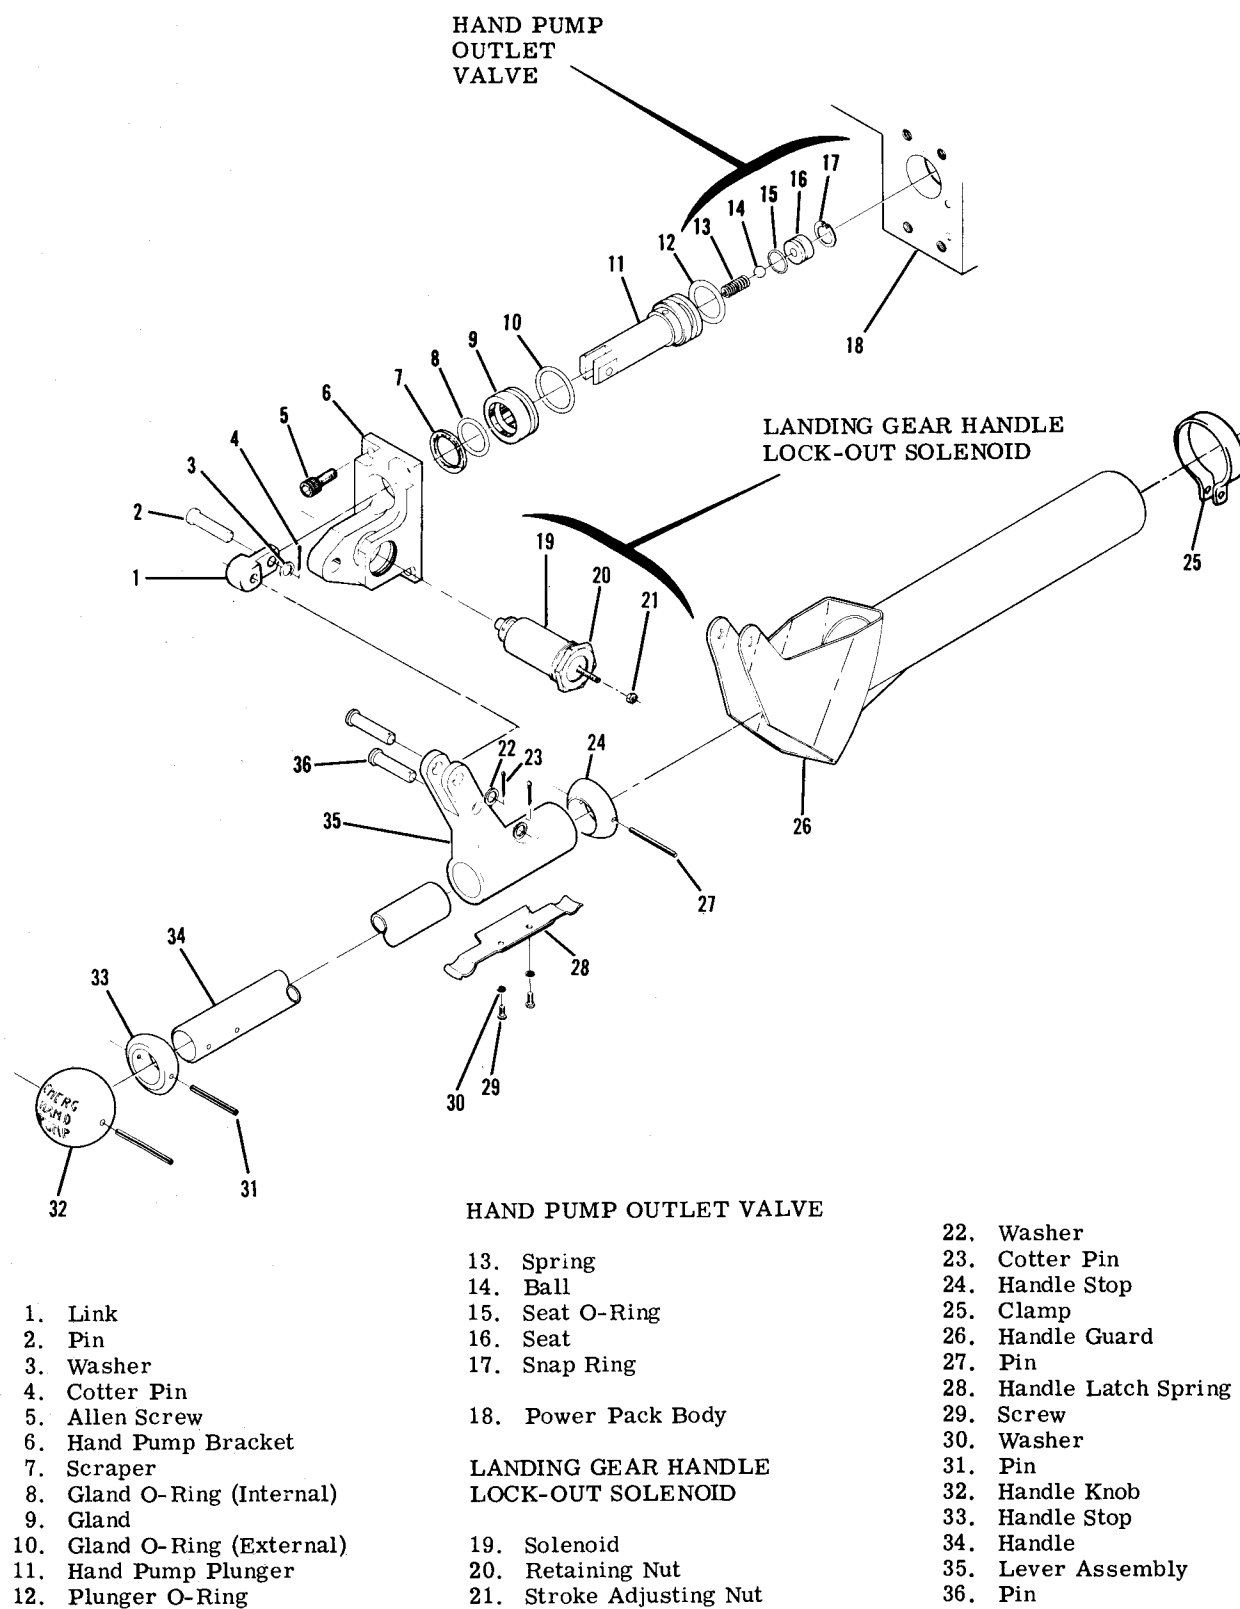

Figure A2-3. Emergency Hand Pump
f. Emergency hydraulic hand pump handle may be disassembled as illustrated in figure A2-3.